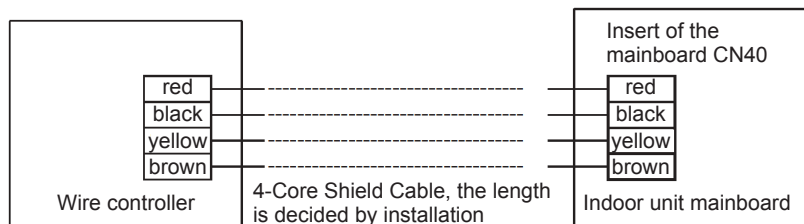

Fig 3-2
13. Connect the wire from the main controller board (see Fig 3-2).